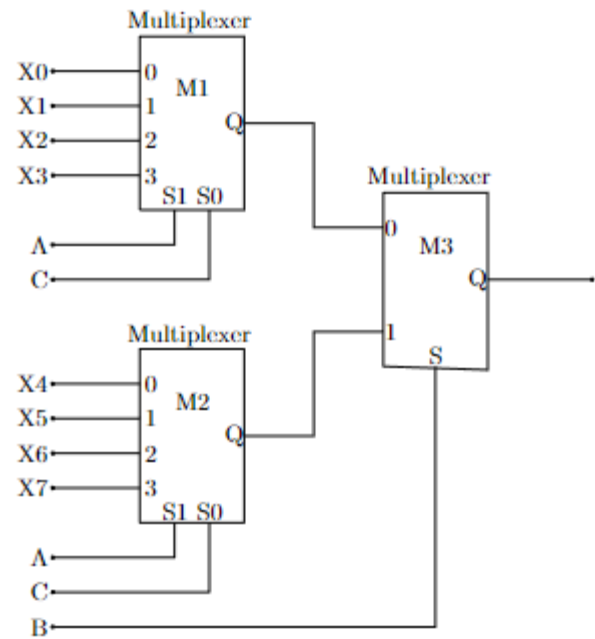

Fig. 3.14: Digital Circuit
26. A Boolean digital circuit is composed using two 4-input multiplexers ( $M1$  and  $M2$ ) and one 2-input multiplexer ( $M3$ ) as shown in the Fig. 3.14.  $X0-X7$  are the inputs of the multiplexers  $M1$  and  $M2$  and could be connected to either 0 or 1. The select lines of the multiplexers are connected to Boolean variables  $A$ ,  $B$  and  $C$  as shown.